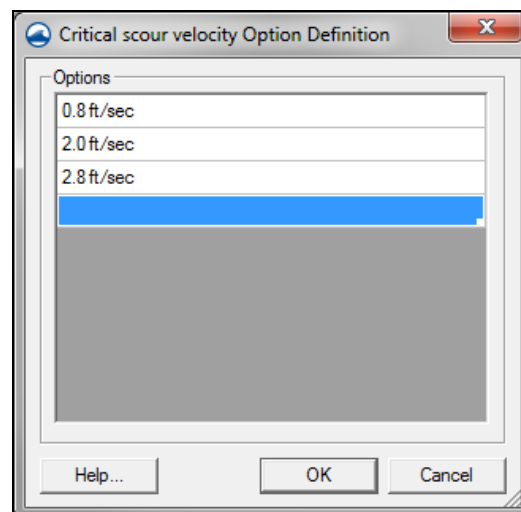

Figure 1 Critical scour velocity Option Definition dialog
10. For the fifth parameter, enter “Critical scour velocity” as the *Name*, select “options” as the *Type*, and click the **Define opts...** button in the *Minimum* column to open the *Critical scour velocity Option Definition* dialog (Figure 1).